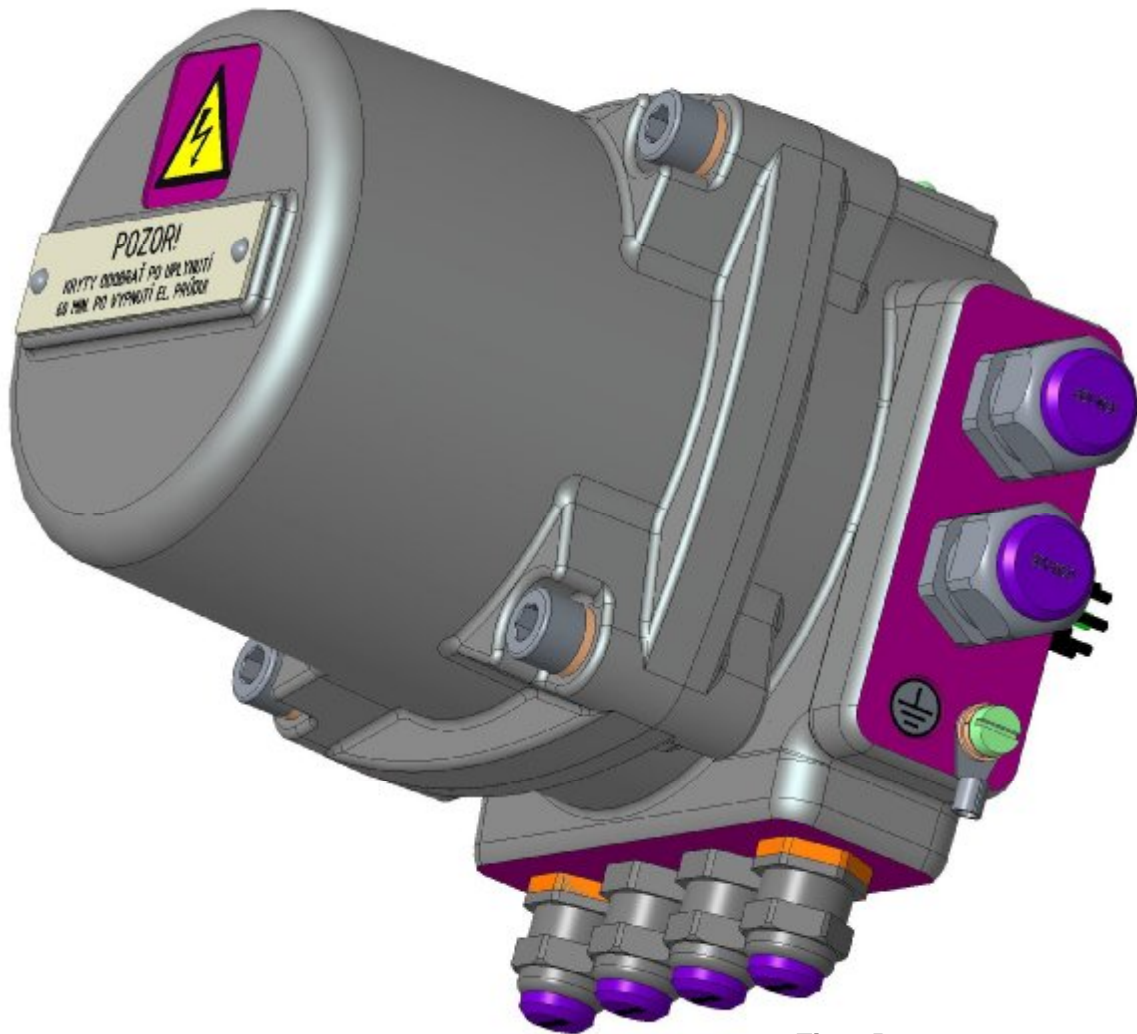

Fig. 1B
Terminal box - with protection type "e" (**Fig. 1B**). Is as standard equipment for EA with communication protocol Modbus / Profibus
- Electrical connection in separate terminal box with protection type "e" (Fig. 1B)